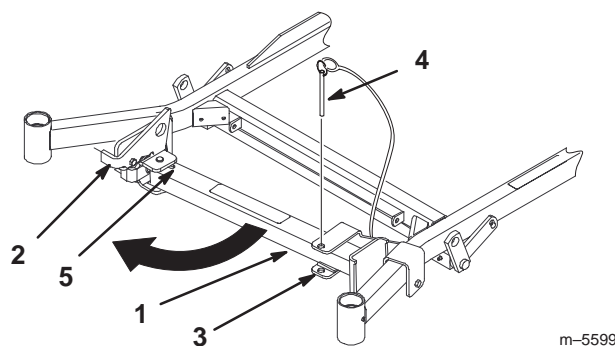

Figure 25
2. Remove bracket pin (Fig. 25).
3. Raise latch. Swing stand foot out front and slide stand toward machine, into the bottom of slot (Fig. 25 and 26).
4. Return stand to its rest position (Fig. 25).